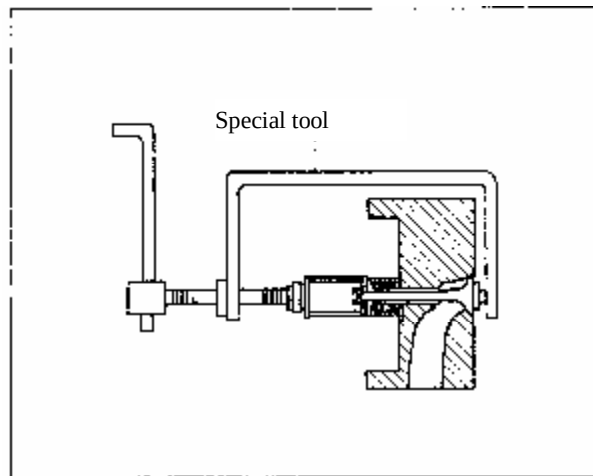

Figure 3-19 Disassembly and Installation of Valve Spring
3.1.13 Use special tools (figure 3-19) to disassemble and assemble the valve. The valve spring end with white paint faces down at mounting.